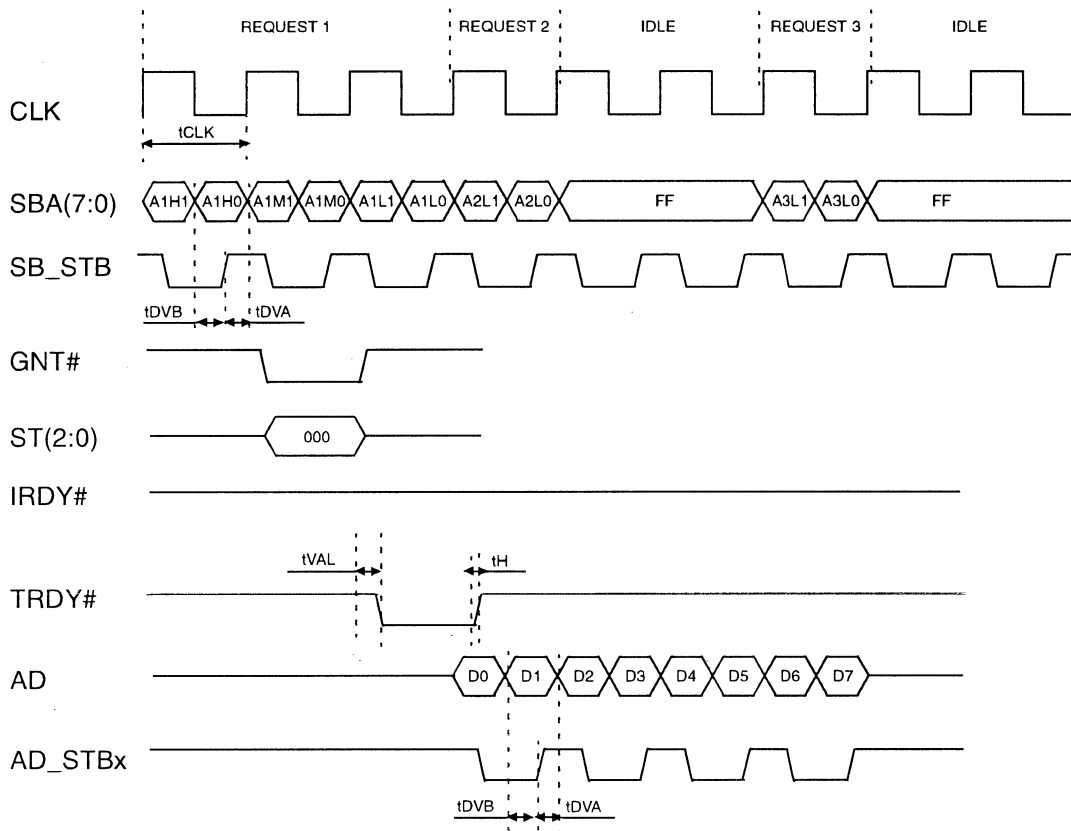
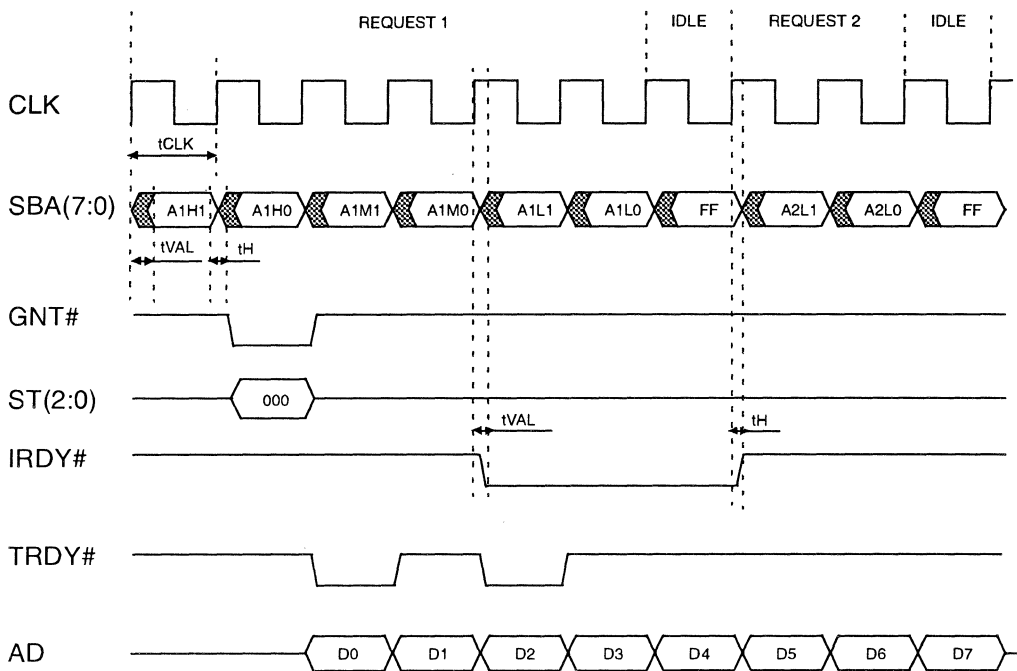

Figure 7-5. AGP 2X Read Request with Return Data (4Qw)
Figure 7-6. AGP 1X Read Request with Return Data (4Qw)
- AGP AC Timing, see *Figure 7-5* and *Figure 7-6*.